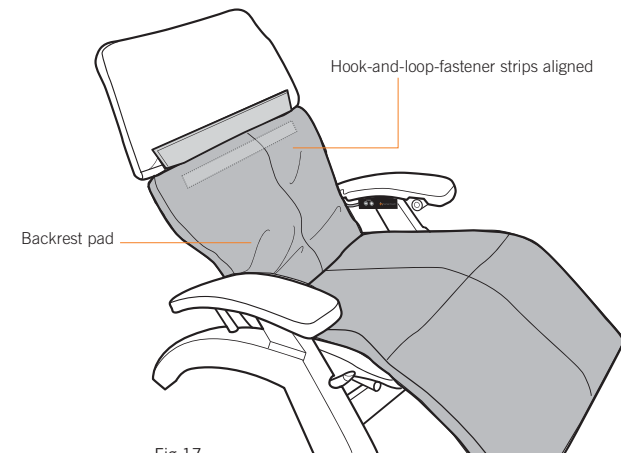

Fig.17
4. Pull up on the backrest pad until the hook-and-loop fastener strip on the back of the pad aligns with the hook-and-loop fastener strip on the chair canvas, then press the two strips firmly together (Fig.17).